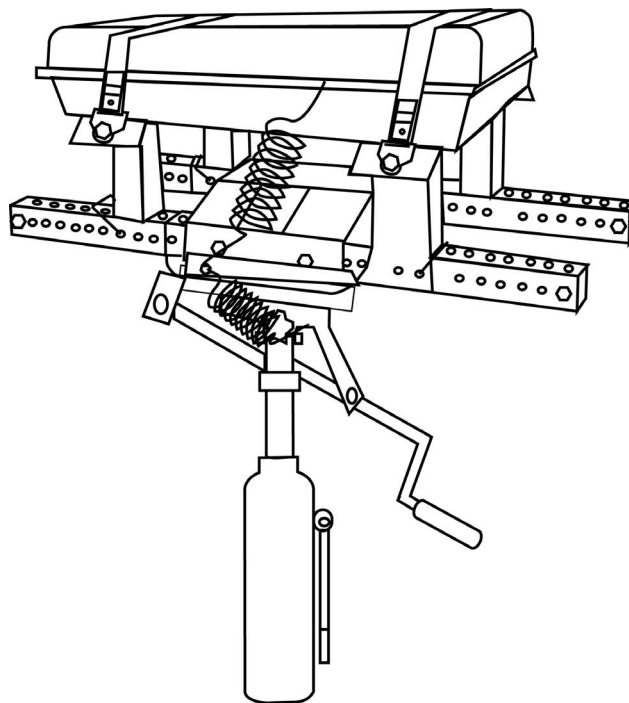

Figure 6
### Removal of Fuel Tank (Refer to Figure 6)
8. Place the safety nylon straps around the fuel tank, and hook them to the holes on the on support pads (refer to Figure 6 and Figure 5 *side view*).